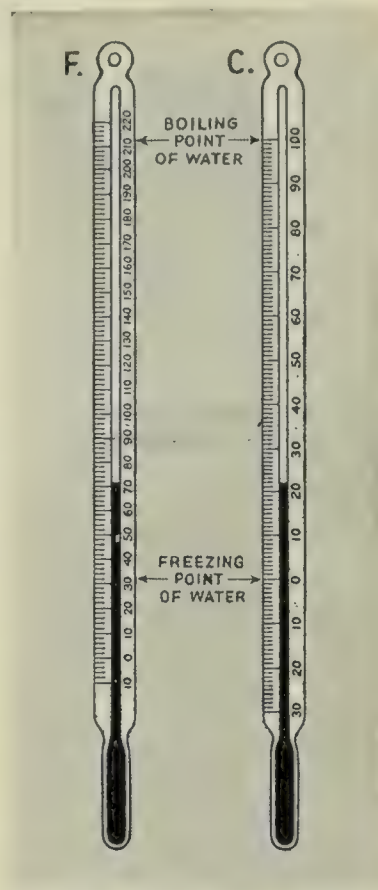

FIG. 35. Centigrade and Fahrenheit thermometers
5. (a) Suppose you are in a country where the centigrade thermometer is used, and the thermometer reads 38°. Find what temperature a Fahrenheit thermometer would show. Prove your answer by studying Figure 35. (b) On a hot summer day a Fahrenheit thermometer read 95°. Can you find the corresponding reading on the centigrade scale?